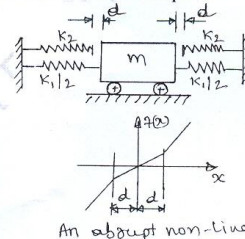

Fig.Q.6(a)
- 6 a. For the system shown in Fig.Q.6(a), find the time period (system with an abrupt non-linearity in spring) per cycle as a function of amplitude of vibration. (12 Marks)